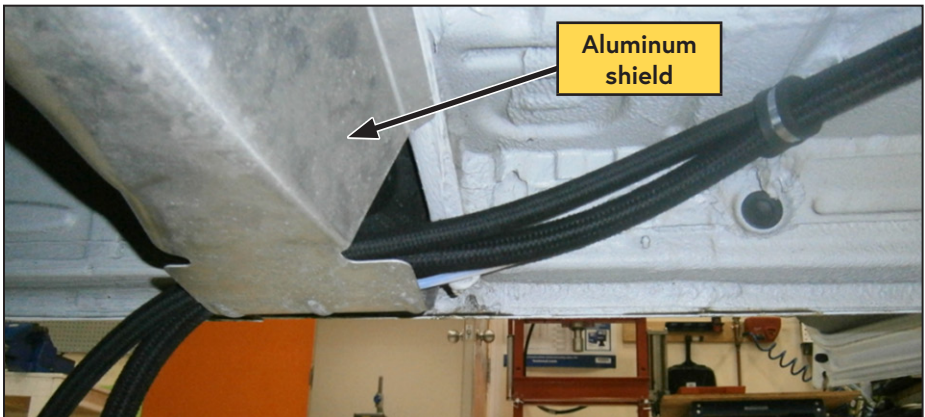

Figure 42 — Hose routing
- Feed the PTFE tube and hoses through the lower portion of the OEM aluminum shield around the fuel filler (Figure 42).